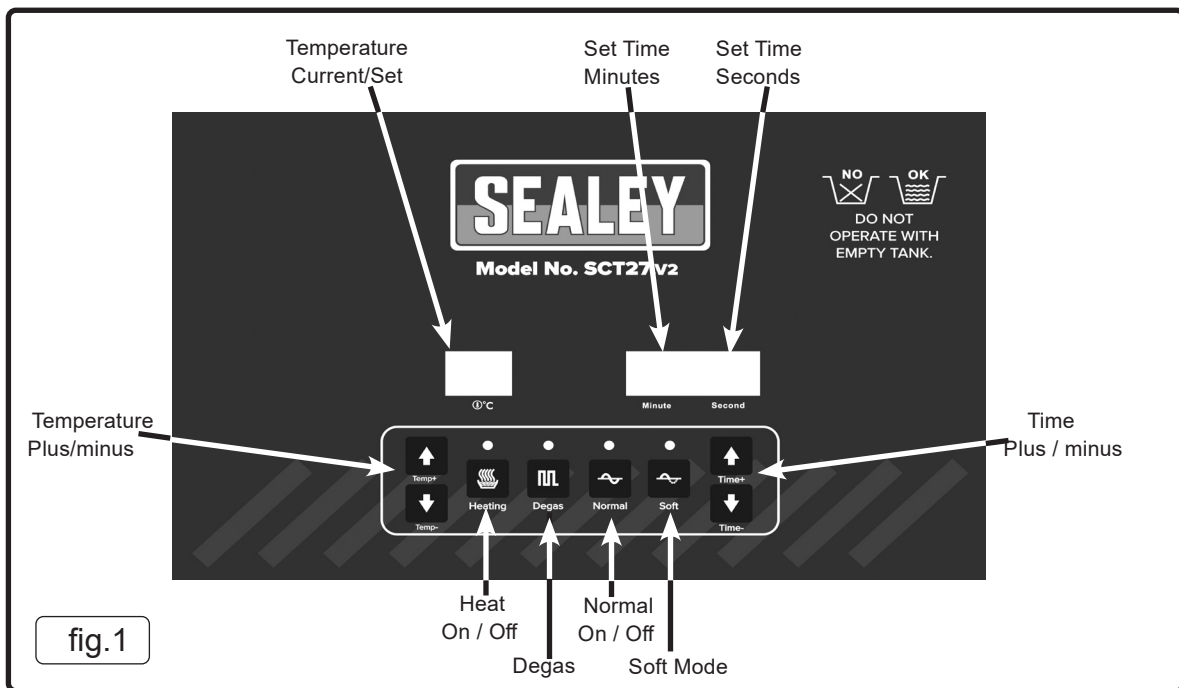

fig.1
NOTE: Time is shown in minutes and seconds (fig.1). Maximum timer setting is 30 minutes.
6.5.1. After timer and temperature setting, press  'Normal' button, the Ultrasonic LED (fig.1) will turn on and the device will work in 'normal mode': continuously working with full ultrasonic power and countdown display.